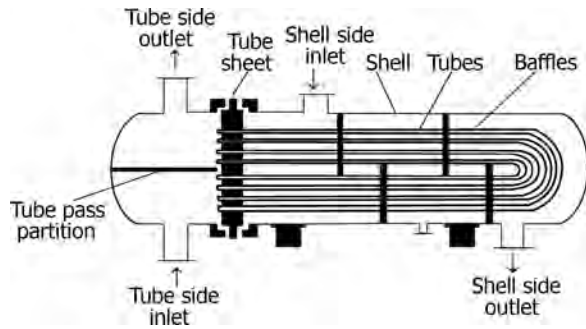

FIGURE 10.6 U-bundle heat exchanger with baffles.
- U-bundle exchanger (Figure 10.6). Single tube sheet tends to save on costs, but costs involved in bending the tubes, coupled with the requirement of larger diameter shell (due to the minimum U-bend radius), offsets these savings.